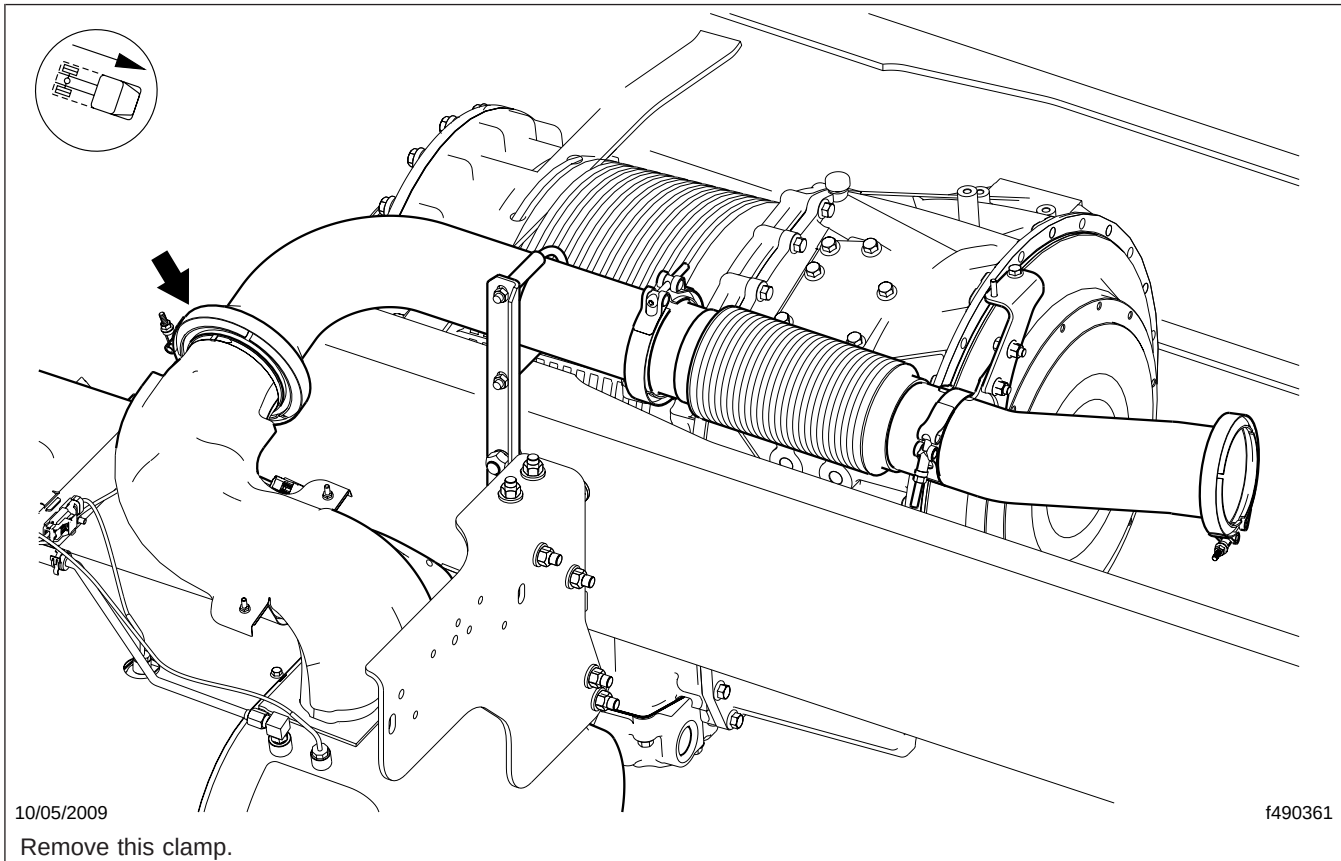

Fig. 1, Disconnecting the ATD from the Exhaust Piping, DD13
13. Install the spherical clamp and gasket at the ATD inlet. See Fig. 1 and Fig. 2. Tighten 126 to 138 lbf·in (1425 to 1560 N·cm).